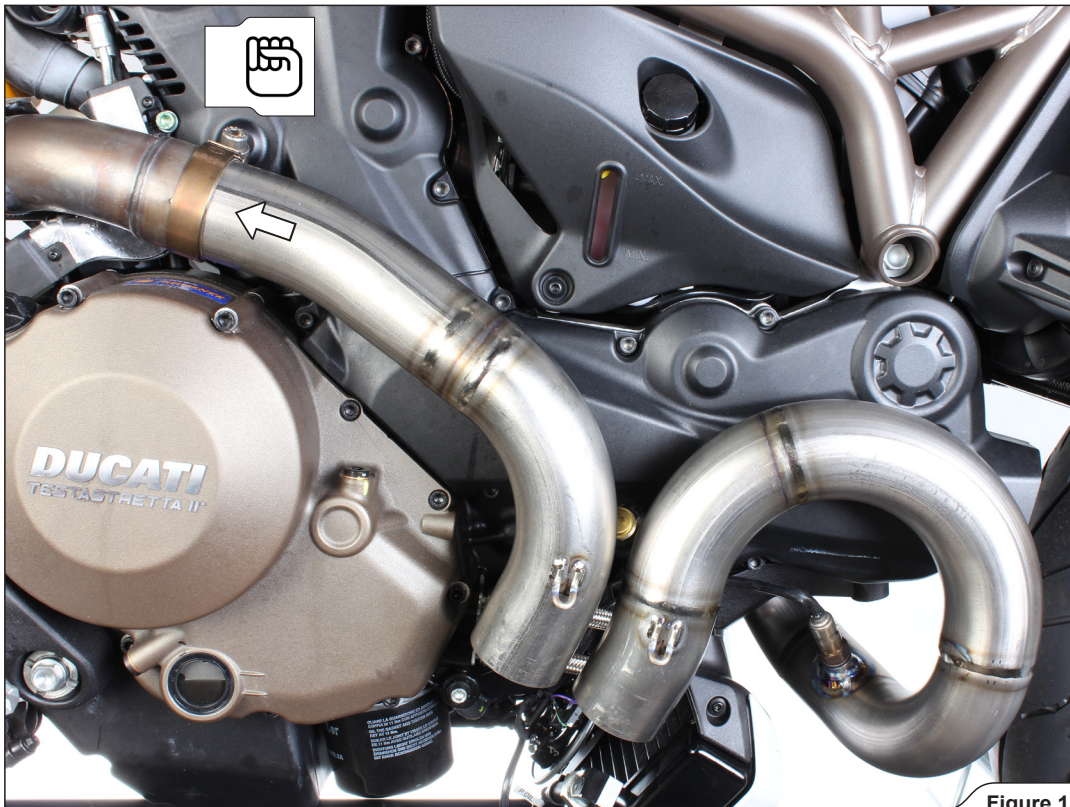

Figure 13
- Slide the rear header into the stock header and hand tighten the clamp (Figure 13).